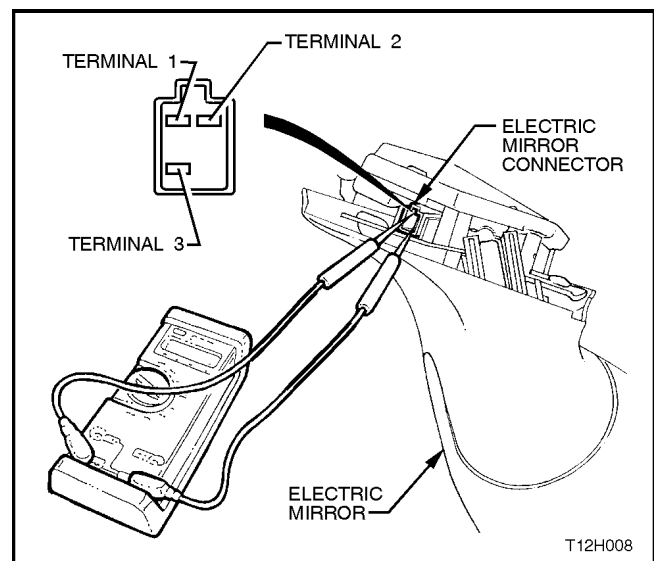

Figure 12H-7
2. Referring to Fig. 12H-8, connect leads from a 12 volt battery to the mirror harness connector terminals nominated in the following chart and observe mirror movement.